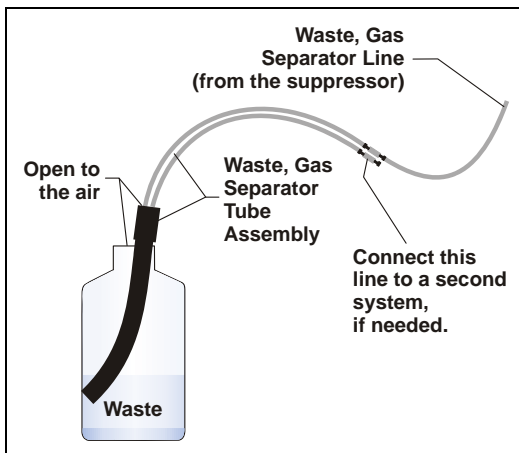

Figure 30. Waste, Gas Separator Tube Installation
2. Connect the **WASTE, GAS SEPARATOR** line from the suppressor to one of the 3-mm (1/8-in) ID white PTFE lines on the waste, gas separator tube assembly (see Figure 30).
DO NOT CAP THE WASTE CONTAINER: In the Dionex ICS-2100, the Thermo Scientific Dionex Atlas® Electrolytic Suppressor and Thermo Scientific Dionex Self-Regenerating Suppressor (Dionex SRS) use an electrolytic process that results in the production of small amounts of oxygen or hydrogen gas. To ensure that the gas is not trapped in a closed container and allowed to concentrate, install a 1.3-cm (0.52-in) ID black waste, gas separator tube (P/N 045460) in an uncapped waste container. Connect the Waste, Gas Separator line to the waste tube (see Figure 30).